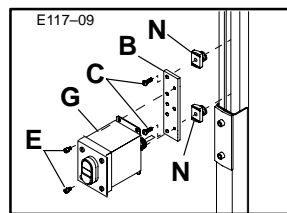

Figure 9: Start-Stop Box Horizontal Mounting to Steel Stand Leg
- a. For a Steel Leg channel, select the desired location and position and install two (2) M6 Spring Nuts (N) into the Leg slot (Figure 9).
- Refer to Figure 9 and disassemble and re-attach Push-button Box assembly to the Mounting Plate and Mounting Brackets in the manner shown.
- Then, attach assembly to the M6 Spring Nuts, using the M6 x 16 mm Button Head Cap Screws (Figure 9). Tighten Screws with 4 mm Hex Key Wrench provided.